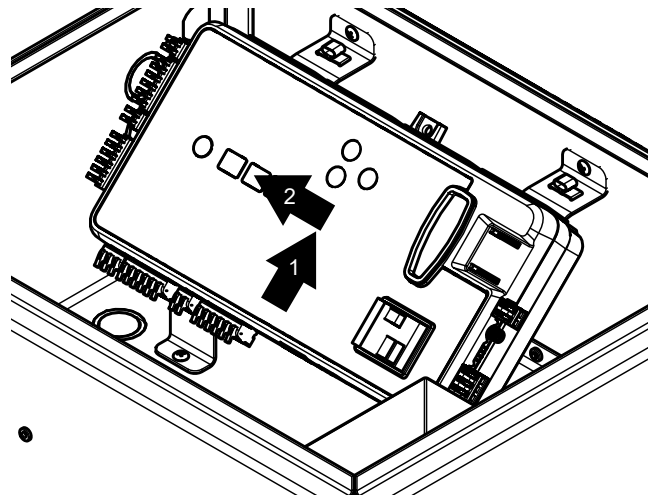

Figure 3. Remove SmartTouch Controller
4. Drill a #29 (0.136 in) hole in the back of the electrical enclosure (Figure 3).